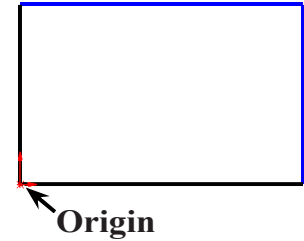

Fig. 2
Step 4. Sketch **corner rectangle** from **Origin**  , **Fig. 2**.